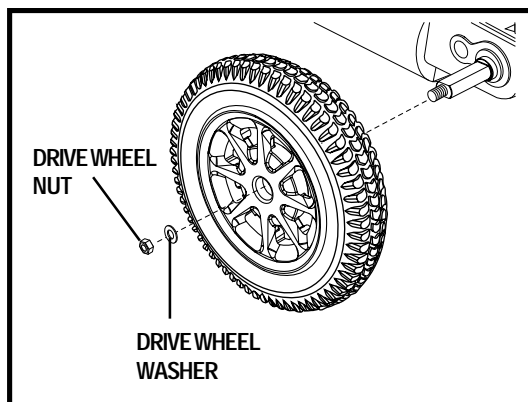

Figure 32. Jazzy 1122 Drive Wheel
4. Remove the drive wheel nut and washer from the axle. See figure 32.